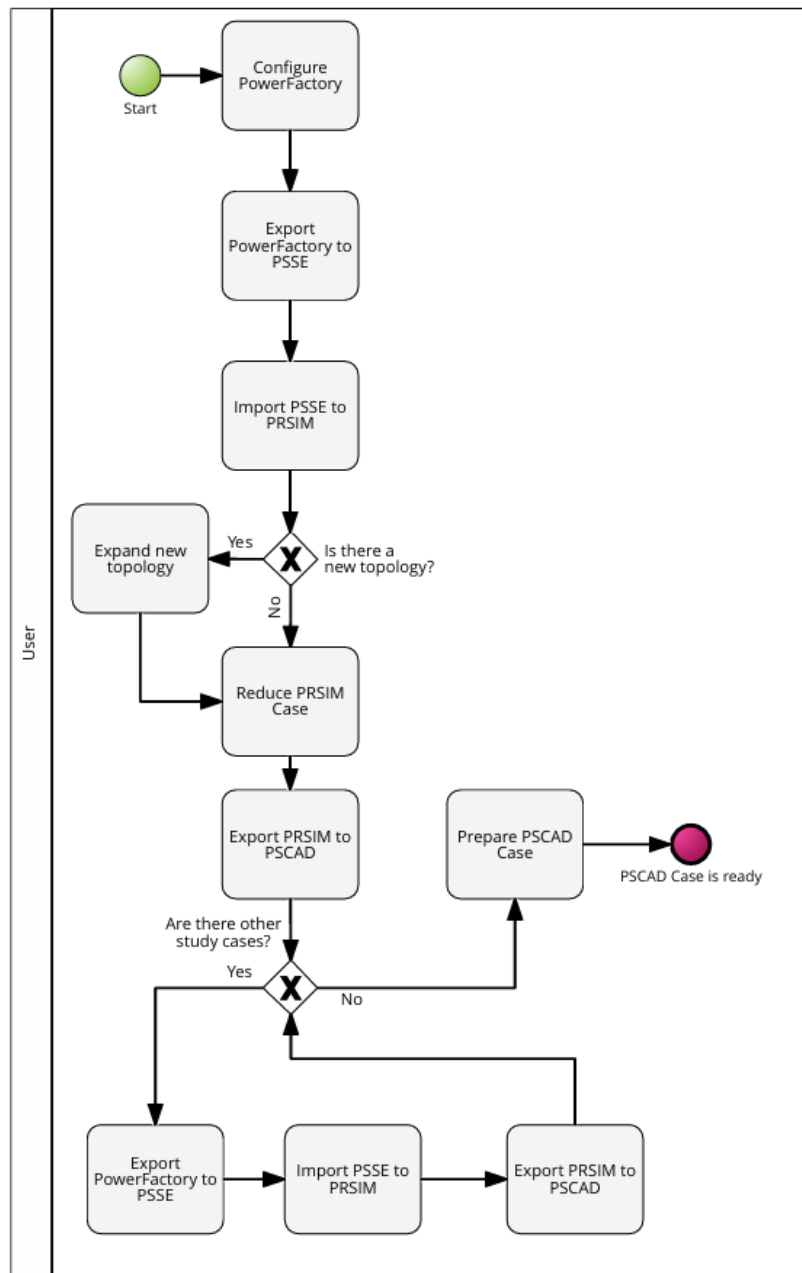

Figure 2: Case Creation Process Diagram
1. If there are other study cases (such as different power flow conditions and outages) follow the workflow at the bottom of Figure 2 in Section 5. In short: